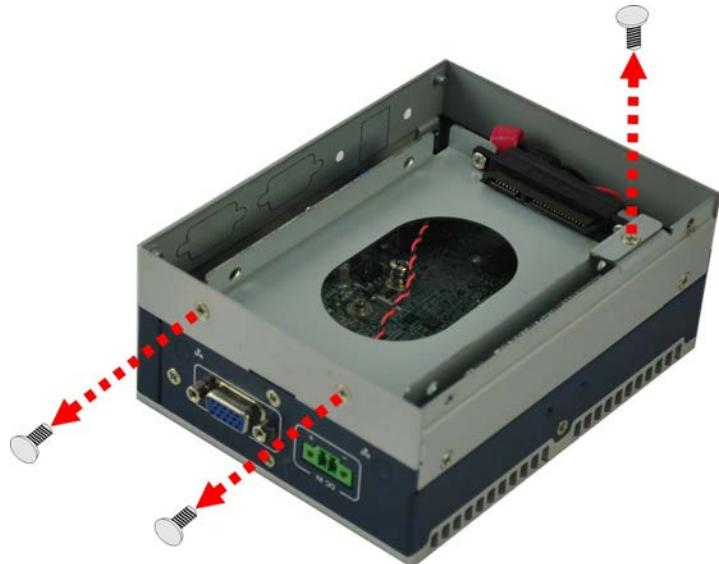

Figure 3-2: HDD Bracket
Step 2: Open the bottom cover and remove the three retention screws from the HDD bracket (**Figure 3-2**).